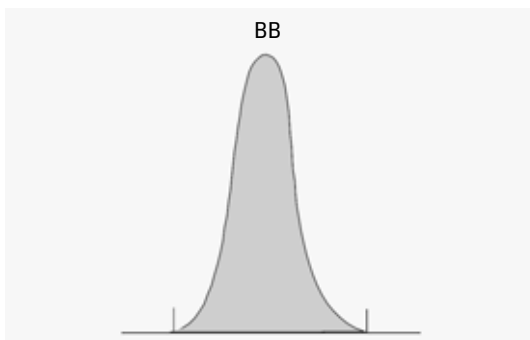

Figure 24 Area measurement for Baseline-to-Baseline Peaks
- for baseline-to-baseline (BB) peaks, the area above the baseline between the tick marks, as in Figure 24 on page 102,